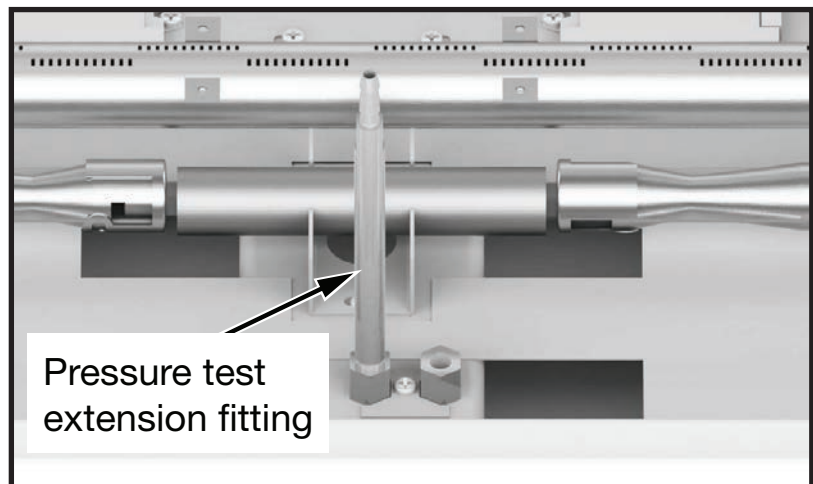

Figure 35: Pressure test extension.
2. Thread the extension test fitting into the open port (Figure 35).